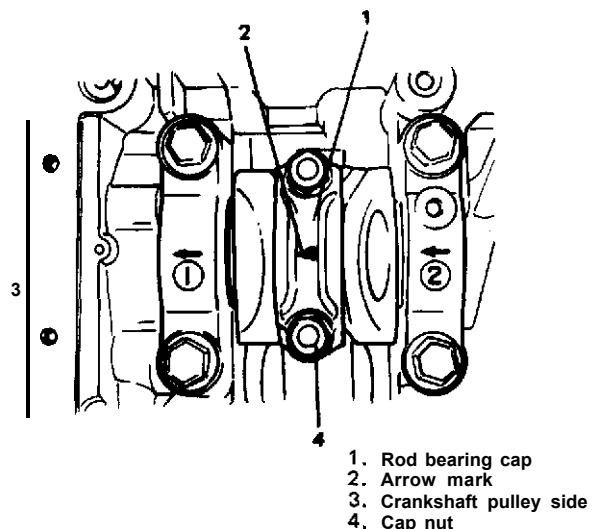

Fig. 3-5-36 Installing bearing cap
- 4) Install rod bearing cap to connecting rod. When installing cap, be sure to point arrow mark on cap to crankshaft pulley side, as indicated in Fig. 3-5-36. Tighten the cap nuts to the specified torque, **DO NOT** turn crankshaft with gaging plastic installed.